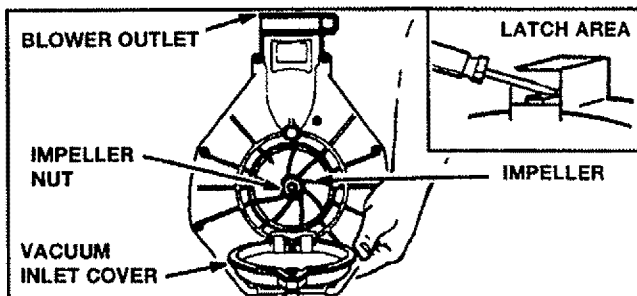

Figure 16
- Guide rope inside the pulley, then through pulley hole. Figure 16.
- Install and tighten the retainer screw/washer. Figure 16.